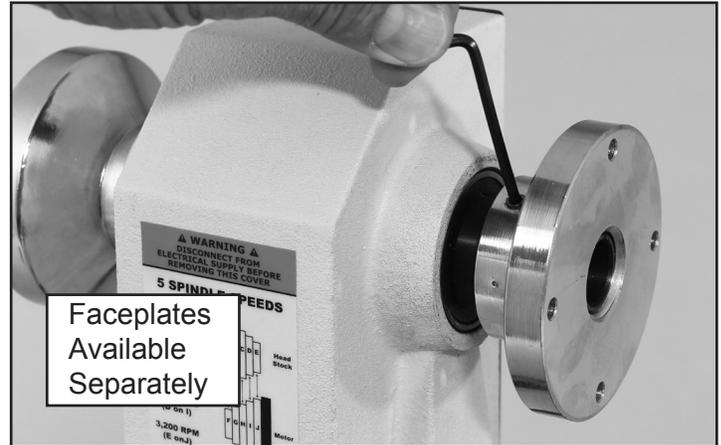

FIG. 9
2. Thread the faceplate clockwise onto the headstock spindle. FIG. 9.